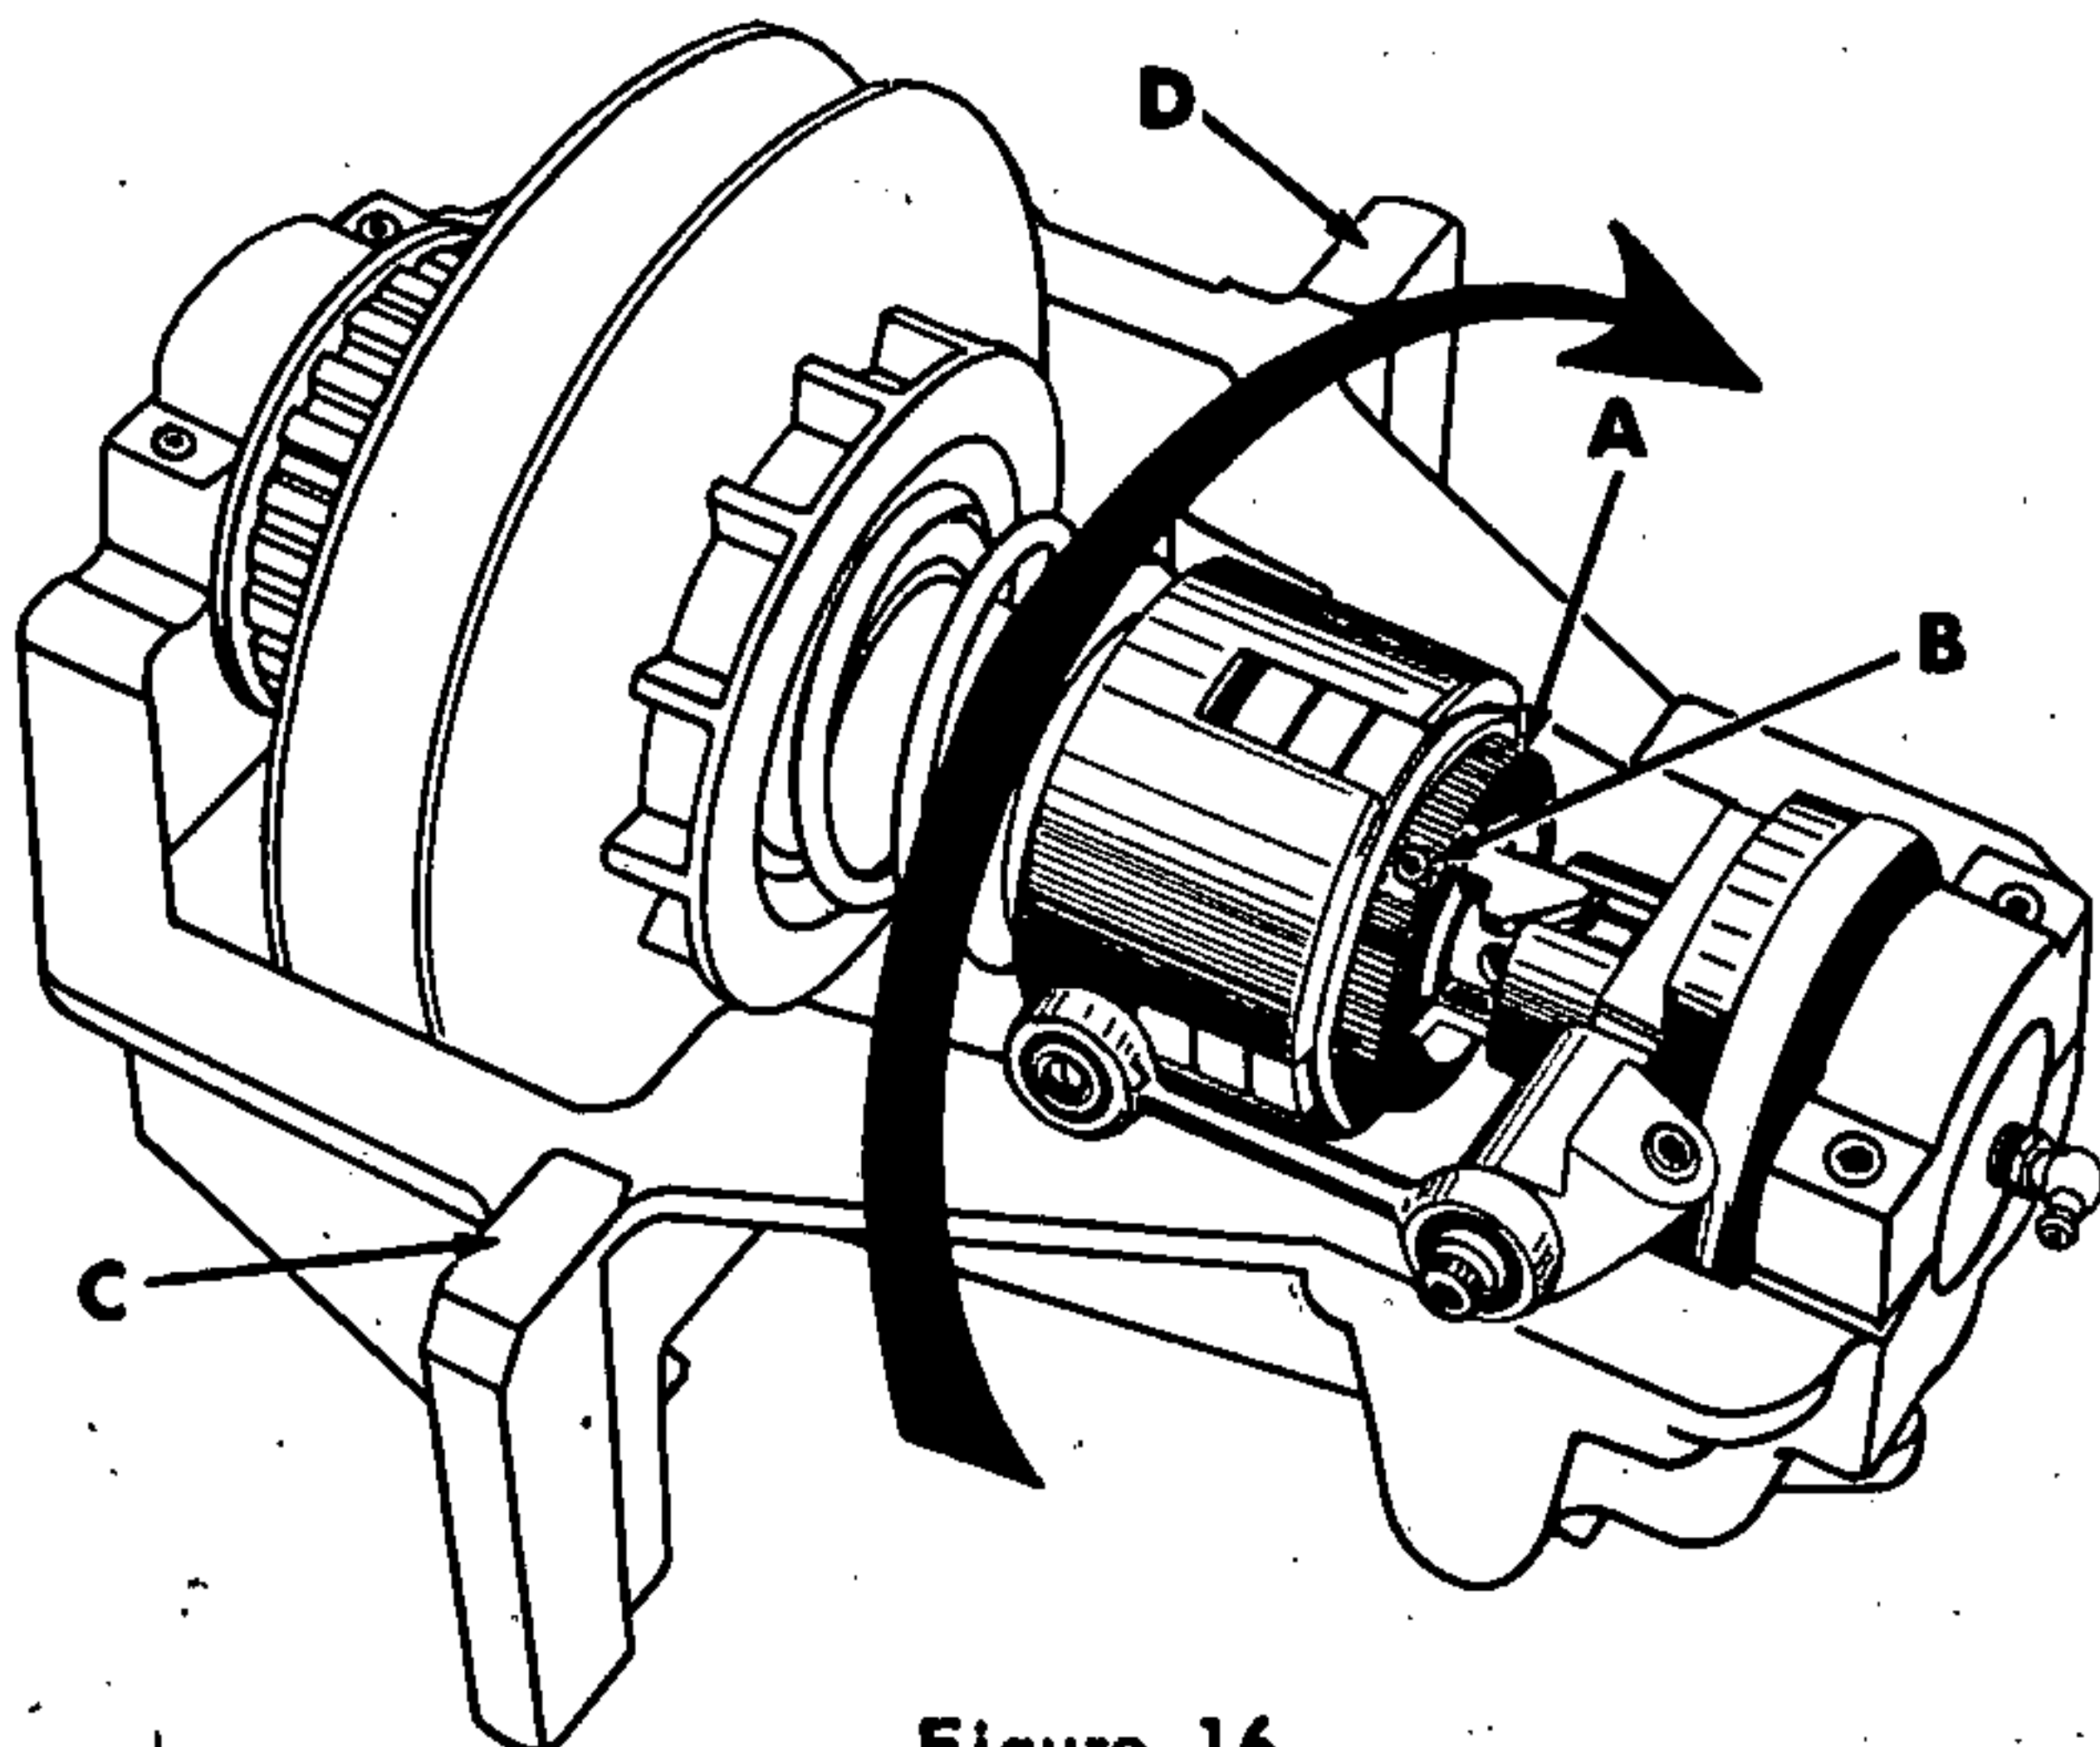

Figure 16
2. Loosen the lock screw (B, fig. 16) in the adjusting ring (A).
3. Measure to make sure that points (C & D, Fig. 16) on countershaft bracket are the same distance from top of head pedestal.